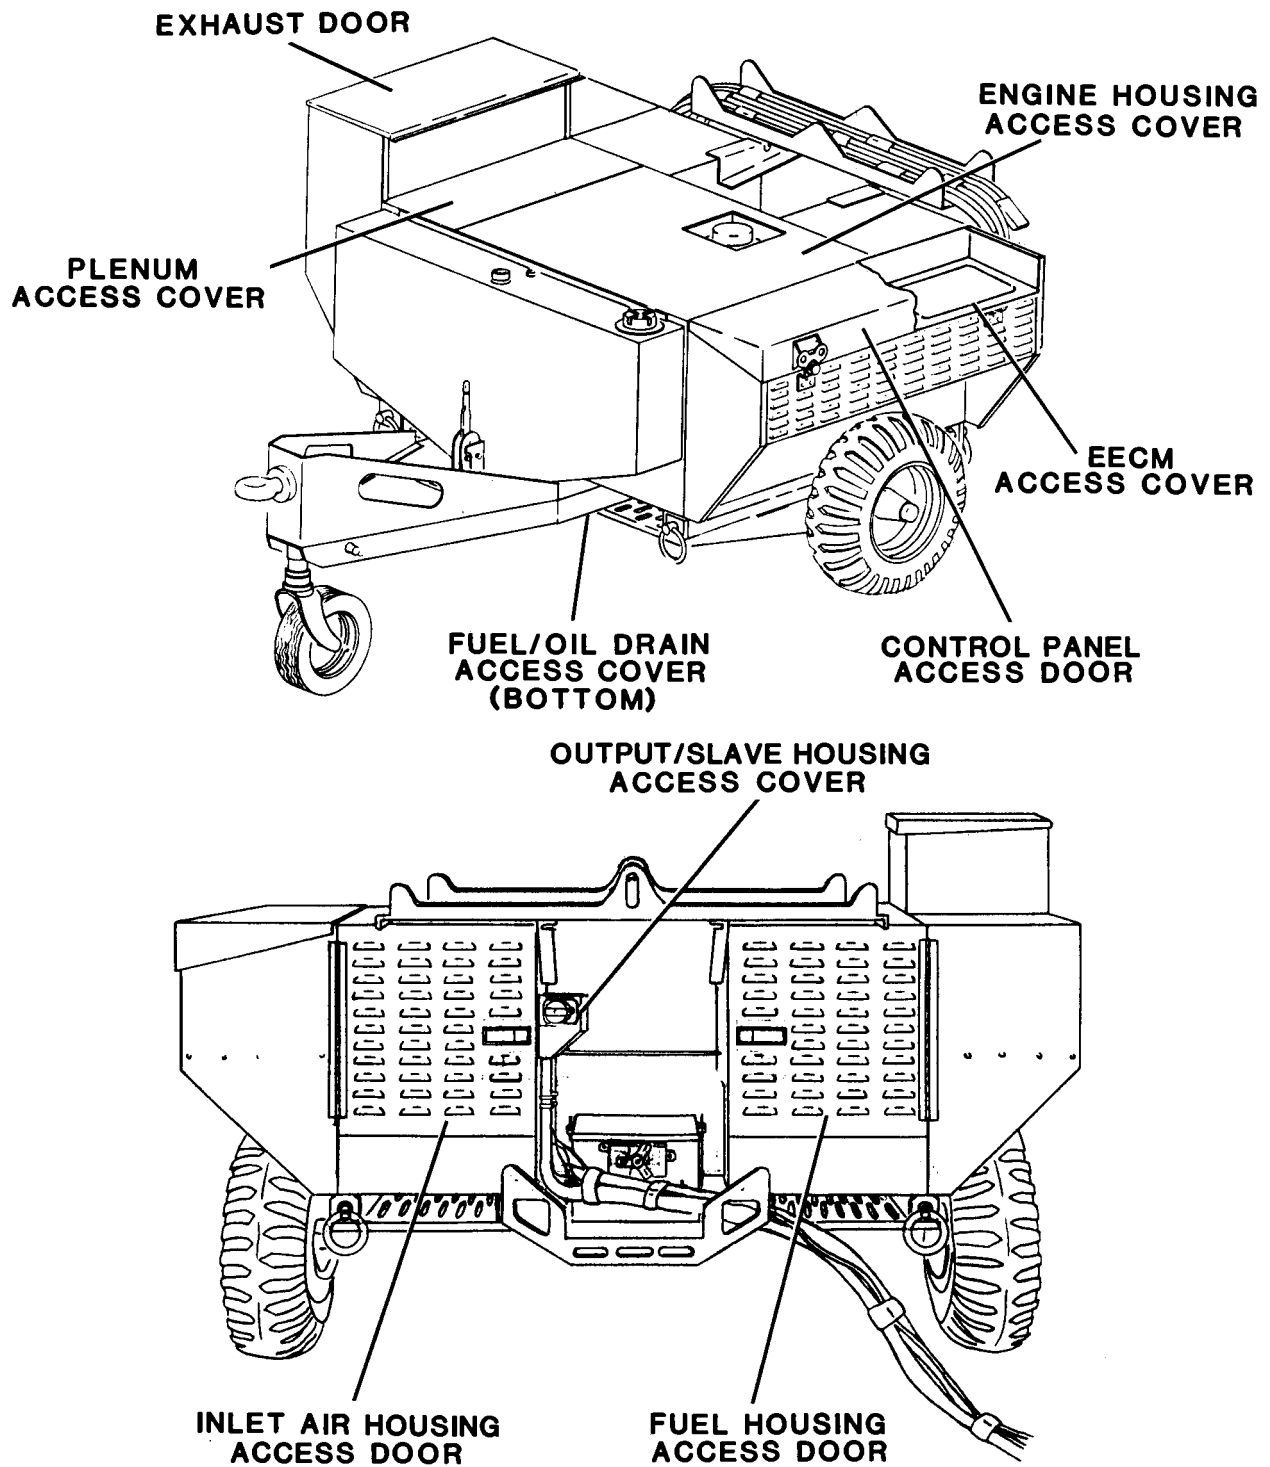

Figure 3-4. Access Covers and Doors Inspection
(1) Ensure that battery holddown is firmly attached.
(2) Inspect battery holddown for rust or corrosion.
d. Access Doors and Covers. See figure 3-4.
(1) Ensure that access doors and covers are free of dents, sharp edges, and holes.
(2) Inspect all surfaces for corrosion and cracked or chipped paint.
(3) Inspect gaskets for damage.